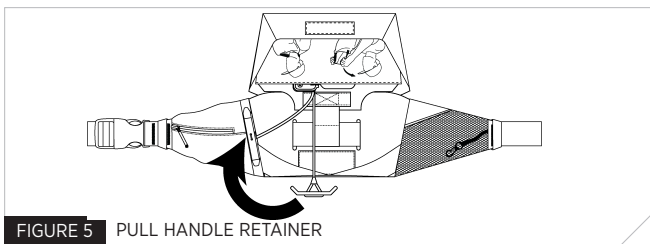

FIGURE 3 CO2 CYLINDER CHECK
2. Unscrew and remove the CO2 cylinder from the inflator and inspect its small end (see Fig. 3). If it is pierced, discard it and replace with a new cylinder. Make sure the CO2 cylinder is screwed hand-tight into the inflator. Failure to do so may cause the inflatable not to inflate (see “Re-arming” on page 10).
6. Check the new cylinder. Ensure that the CO2 cylinder has not been pierced (see Fig. 3).